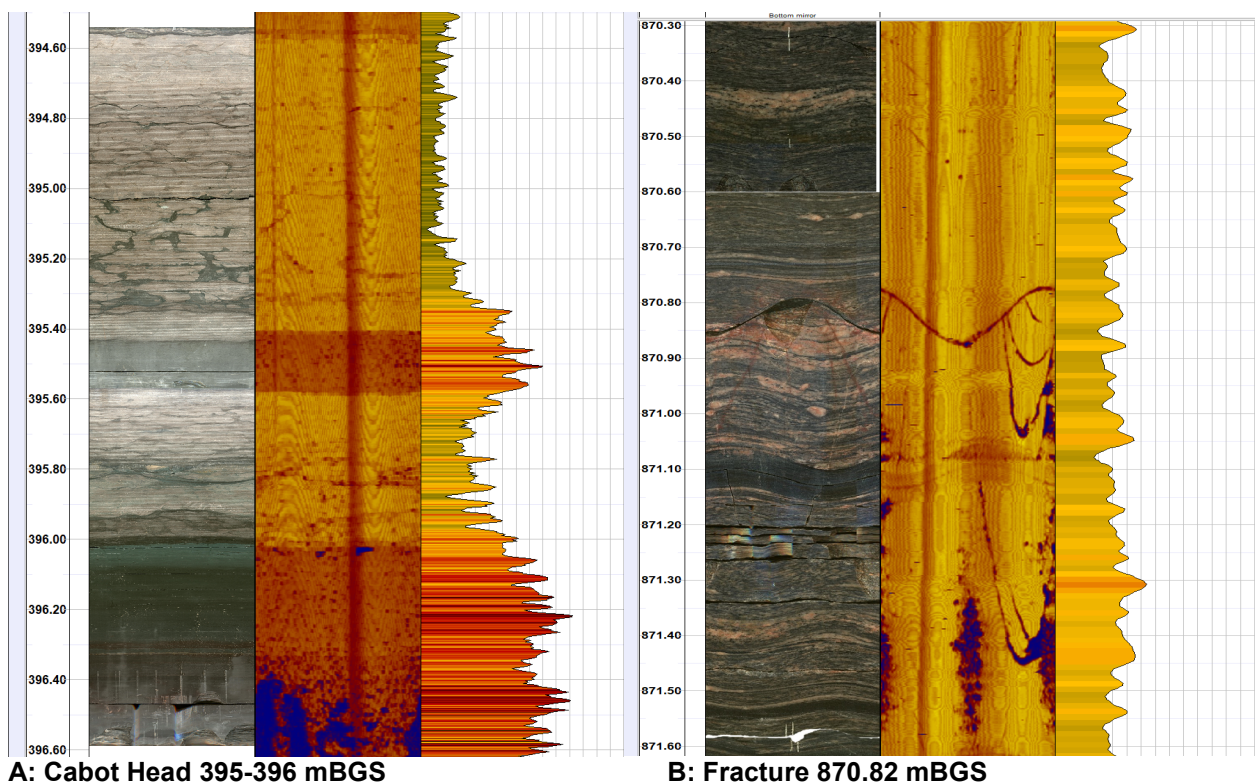

Figure 4 ATV (Gamma) to Core Offset after Depth Adjustment
2. The ATV and gamma data were stretched to match select unambiguous distinctive features in core photos where there was 100% core recovery and therefore high confidence in depth position. Two such features were selected in SB_BH01 and include (A) midway along the borehole near the Cabot Head boundary and (B) a fracture near the bottom of the borehole within the Precambrian (870.82 mBGS) (Figure 4).